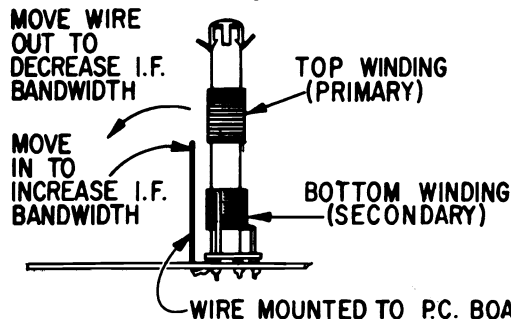

FIGURE 4 - Bandwidth Adjustment
1. To narrow the I.F. response curve, pull the wire away from the 1st I.F. coils of T3 (top). Repeat Steps 2 through 5 of the Video I.F. Alignment. See Figure 4.
2. To broaden the I.F. response curve, press the wire toward the 1st I.F. coils of T3 (top). Repeat Steps 2 through 5 of the Video I.F. Alignment. See Figure 4.